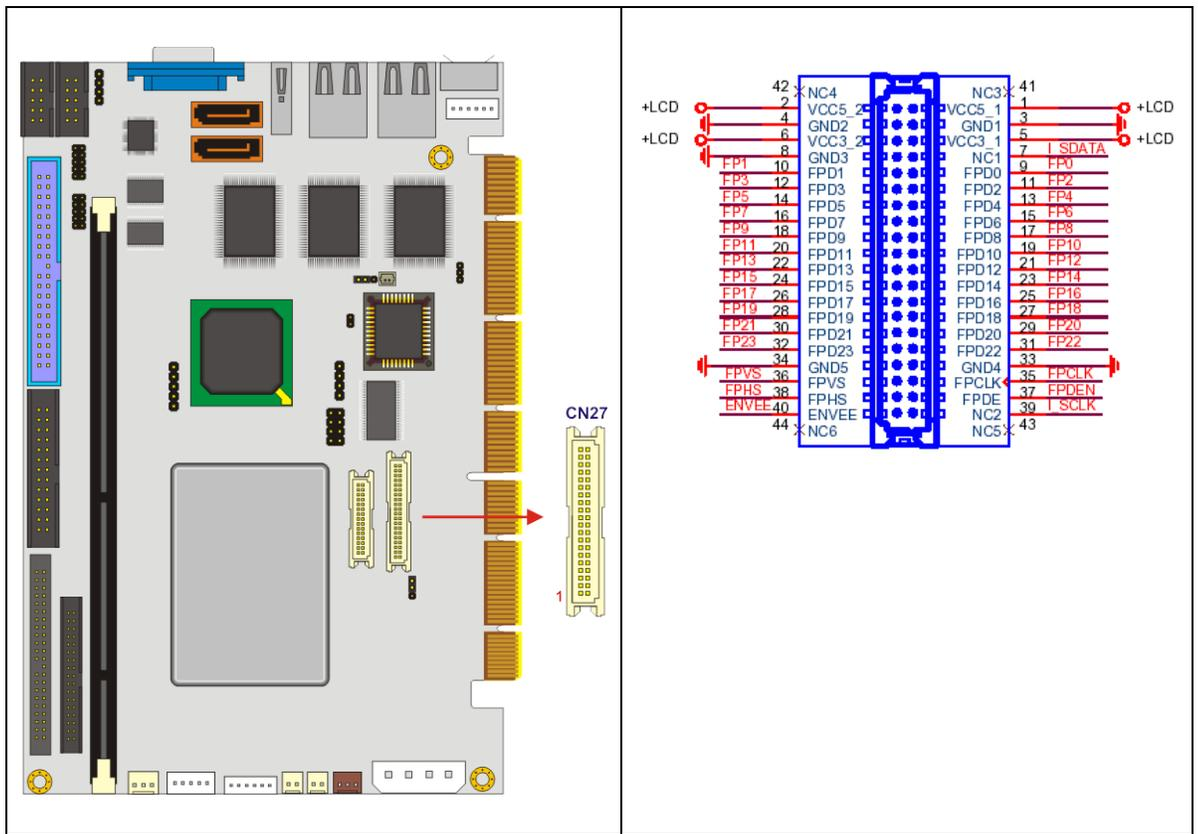

Figure 3-24: TFT LCD TTL Connector Location
- CN Location:** See **Figure 3-24**